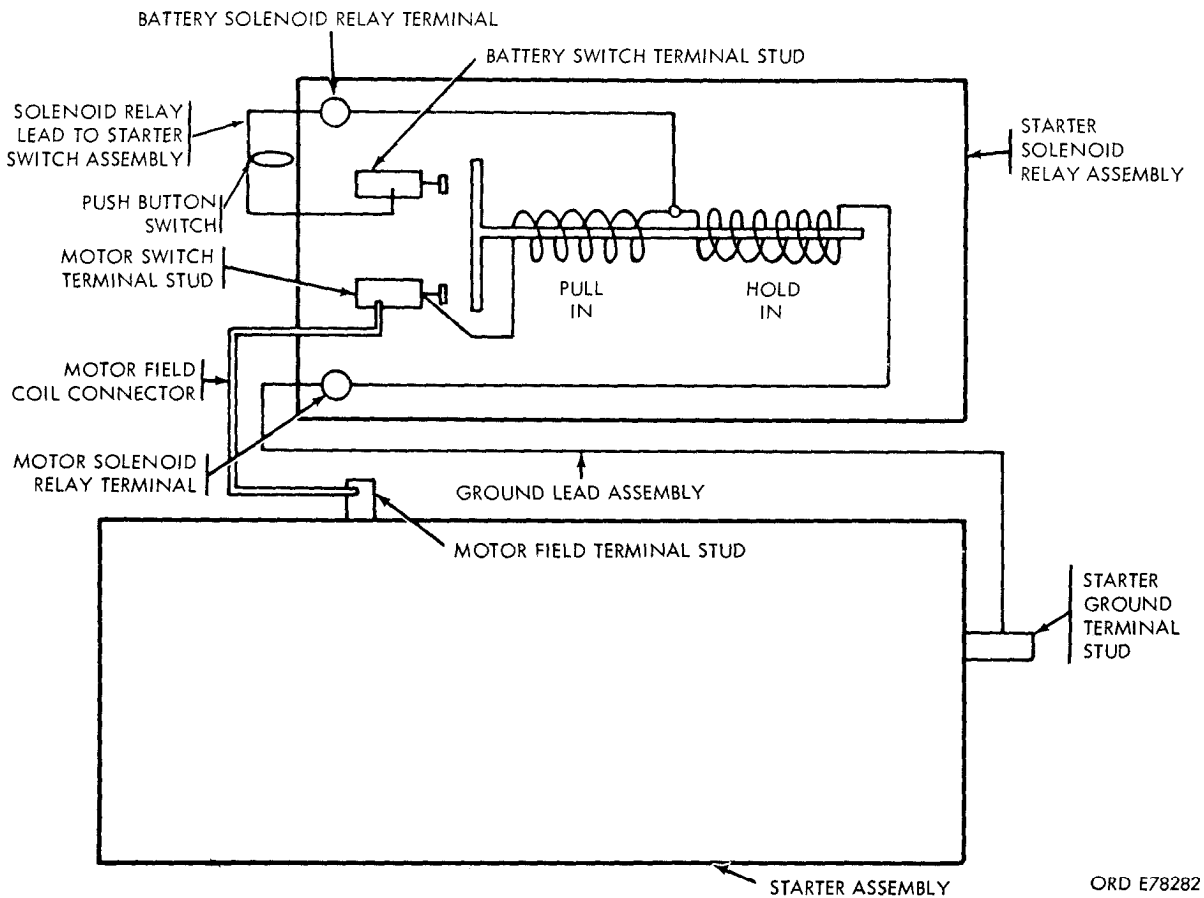
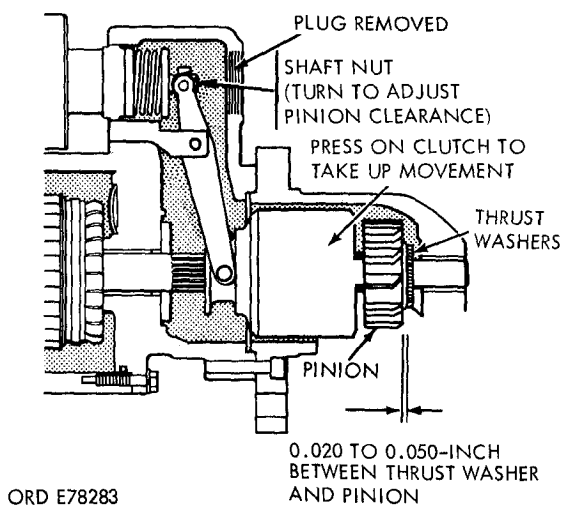

Figure 4-32. Starter wiring diagram-schematic.
Figure 4-33. Adjusting drive assembly pinion clearance
a. Check and adjust pinion clearance as described below. Refer to figure 4-32 for schematic wiring diagram of starter and solenoid relay connections.
(1) Remove motor field coil connector from the motor switch terminal stud.
(2) Remove ground lead assembly connecting motor solenoid relay terminal and starter ground terminal stud.
(3) Remove solenoid relay lead assembly connecting battery switch terminal stud and battery solenoid relay terminal.
(4) Connect a 24-volt battery supply to battery solenoid relay terminal and motor solenoid relay terminal.
(5) Momentarily hold a jumper lead from the motor switch terminal stud to the motor solenoid relay terminal. The pinion will now shift into cranking position and remain so until the battery is disconnected.
(6) Push pinion back toward armature to take up slack movement.
(7) Check for 0.020 to 0.050-inch clearance between thrust washer and pinion. To adjust, remove inspection plug (fig. 4-1) and gasket. Adjust clearance to 0.020 to 0.050-inch by turning shaft nut (fig. 4-33) as shown in figure 4-2.